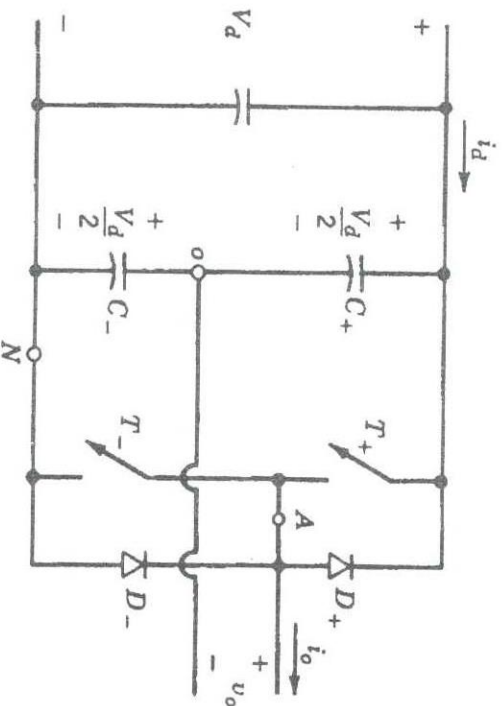

Figure Q4: Single-phase half-bridge inverter.
- Q4 a) The single-phase half-bridge inverter shown in Figure Q4 uses sinusoidal PWM switching to generate an ac output voltage v_o .
- (I) Amplitude modulation ratio (m_a)
- (II) Frequency modulation ratio (m_f)